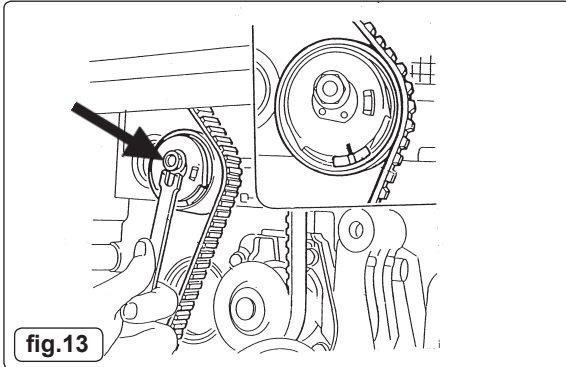

fig.13
- 3.3.13 Tension the timing belt by turning the tensioner **anti-clockwise**, with Adjuster VS1400/03 and **apply maximum tension**. Tighten the tensioner nut (fig.13).